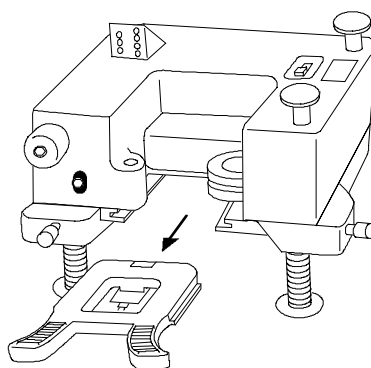

Figure 2-12. Removing the cartridge from the probe head.
1. Remove the probe cartridge from the probe head by grabbing the two prongs (using one or two hands) and sliding the cartridge out towards you, as shown in Figure 2-12.